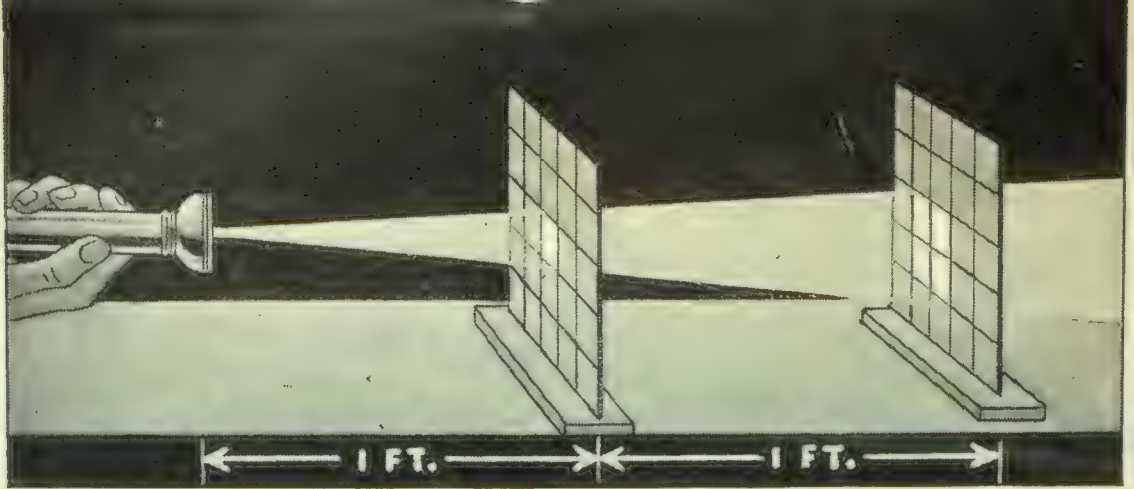

FIG. 466. Apparatus for Experiment 104
*Experiment 104.* WHAT EFFECT DOES THE DISTANCE FROM A SOURCE OF LIGHT HAVE UPON ITS INTENSITY? In a dark room place a candle or electric flashlight one foot from a cardboard that has a hole one inch square at the centre (Figure 466). Allow the light to pass through the hole in the first cardboard and strike a second cardboard, which is marked off in square inches and which is held two feet from the candle. How many square inches does the beam of light cover on the second cardboard? Move the second